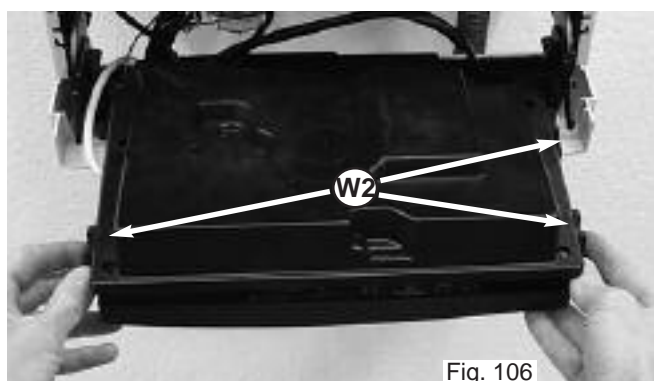

Fig. 106
3. Release the three clips **W2** and remove the electrical box cover (see Fig. 106);